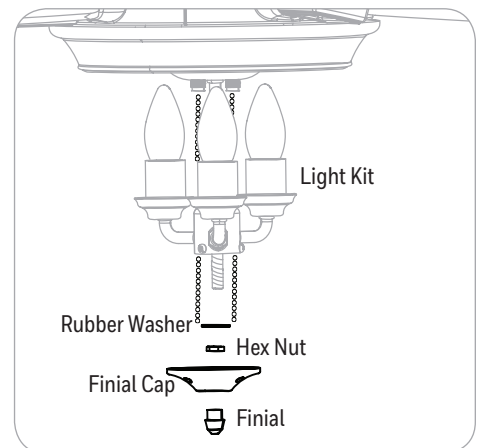

Figure 5.9
9. Remove the finial, finial cap, hex nut, and rubber washer from the threaded rod on the light kit (Figure 5.9).